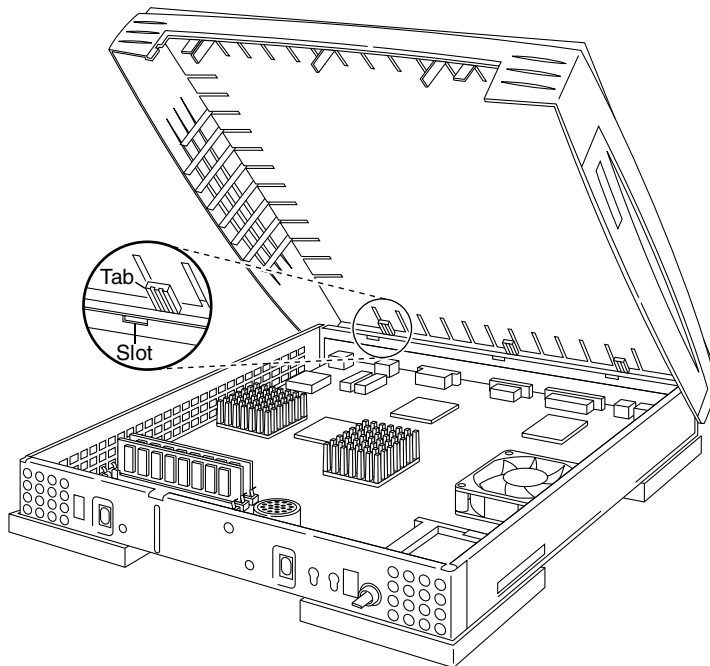

Figure 5-8 Placing the Top Cover on the Bottom Section
1. Swing the back of the top section over the back edge of the bottom section and align the tabs on the top section with the slots on the bottom section, as shown in Figure 5-8.